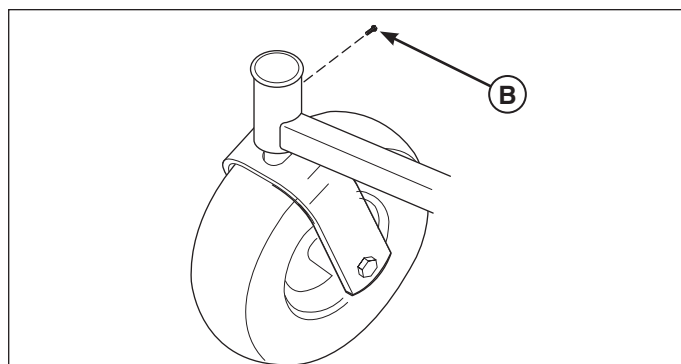

Figure 32. Front Caster & Wheel
1. Remove the 1/4-28 bolt (A, Figure 32) screwed into the caster and install a 1/4-28 grease fitting.